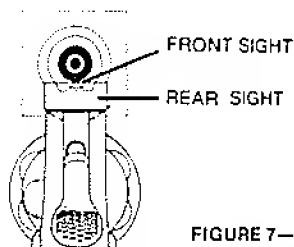

FIGURE 7—AIMING
2. Take aim by aligning target with front and rear sights (See Figure 7).